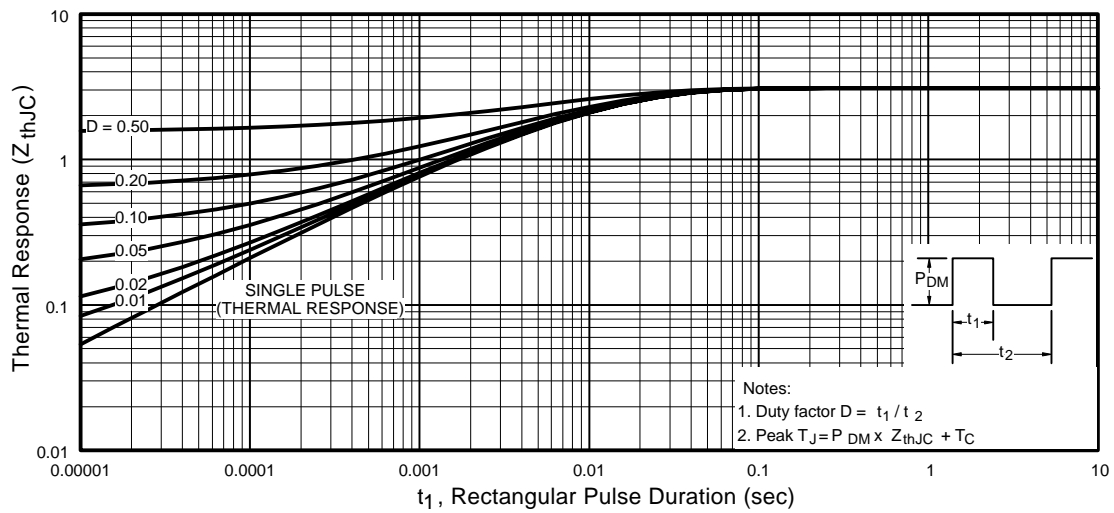

Fig 11. Maximum Effective Transient Thermal Impedance, Junction-to-Case
- ① Repetitive rating; pulse width limited by max. junction temperature. (See fig. 11)
- ② Starting $T_J = 25^\circ\text{C}$, $L = 13\text{mH}$